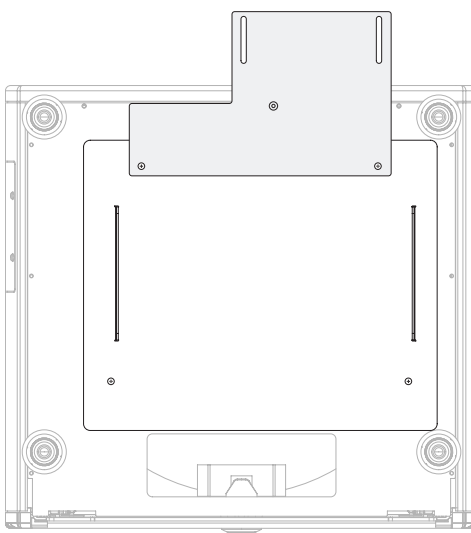

Figure 3-4. Vision 30/CineWide with Anamorphic Lens Base Plate and Ceiling Mounting Plate - Bottom View
3. Secure the CineWide base plate (and ceiling mounting plate, if needed) to the projector with the required number of **M6 x 1.0mm x 16mm** screws: two for the lens base plate only, or four for the base plate and ceiling mounting plate. See Figure 3-4. **TIGHTEN THE SCREWS SECURELY, BUT DO NOT OVER-TIGHTEN THEM.**